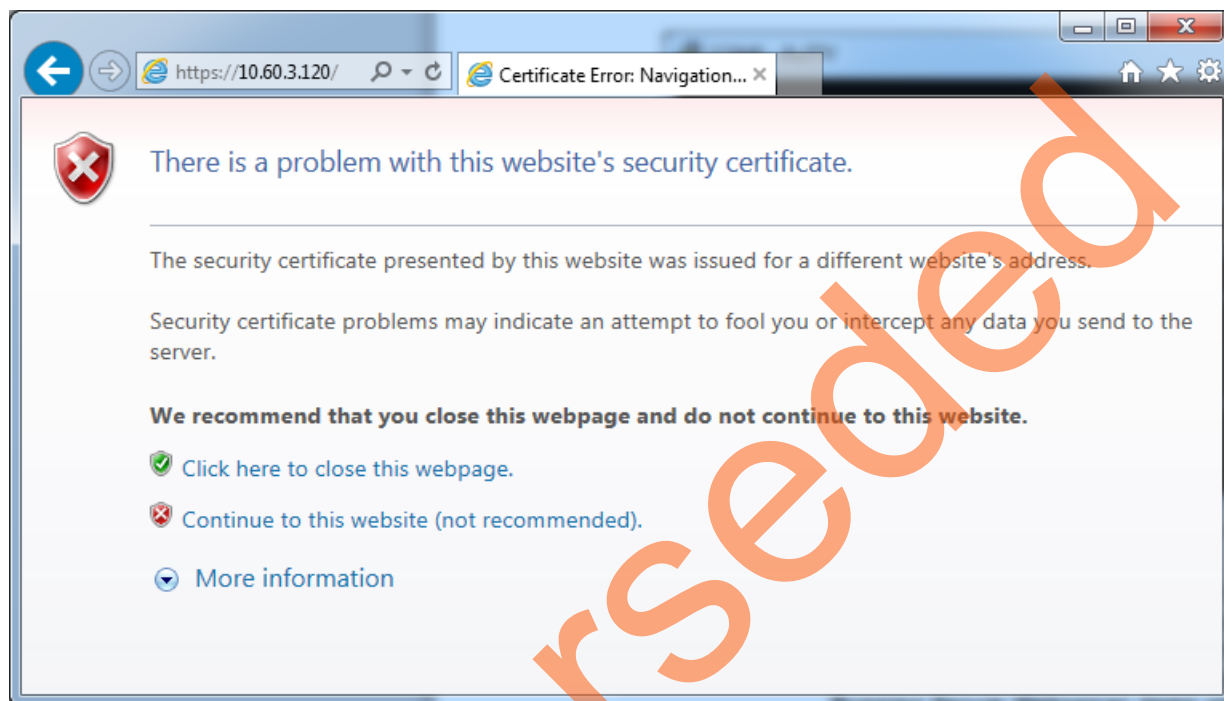

Figure 13 • Microsoft Internet Explorer showing Certificate Error Warning Message
1. Open the Microsoft Internet Explorer and type the URL (for example, <https://10.60.3.120/>) in the address bar. The browser shows a warning message as shown in Figure 13.